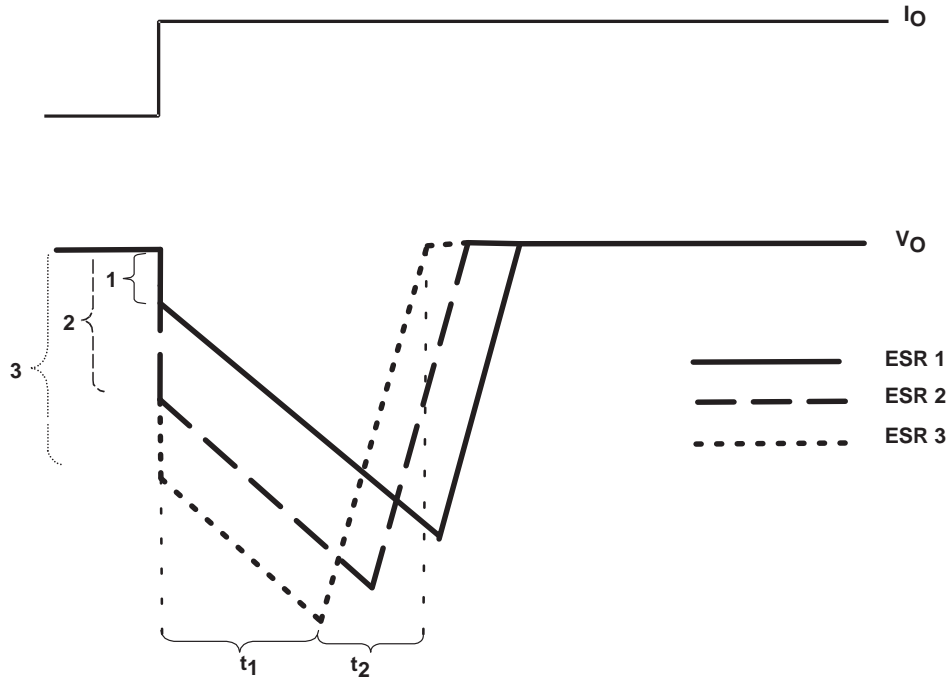

Figure 22. Correlation of Different ESRs and Their Influence to the Regulation of  $V_o$  at a Load Step From Low-to-High Output Current
Besides its capacitance, every capacitor also contains parasitic impedances. These parasitic impedances are resistive as well as inductive. The resistive impedance is called equivalent series resistance (ESR), and the inductive impedance is called equivalent series inductance (ESL). The equivalent schematic diagram of any capacitor can therefore be drawn as shown in Figure 22.
- The LDO is not able to supply the sudden current need due to its response time ( $t_1$  in Figure 22). Therefore, capacitor  $C_O$  provides the current for the new load condition (dashed arrow).  $C_O$  now acts like a battery with an internal resistance, ESR. Depending on the current demand at the output, a voltage drop will occur at  $R_{ESR}$ . This voltage is shown as  $V_{ESR}$  in Figure 21.
- When  $C_O$  is conducting current to the load, initial voltage at the load will be  $V_O = V(C_O) - V_{ESR}$ . Due to the discharge of  $C_O$ , the output voltage  $V_O$  will drop continuously until the response time  $t_1$  of the LDO is reached and the LDO will resume supplying the load. From this point, the output voltage starts rising again until it reaches the regulated voltage. This period is shown as  $t_2$  in Figure 22.